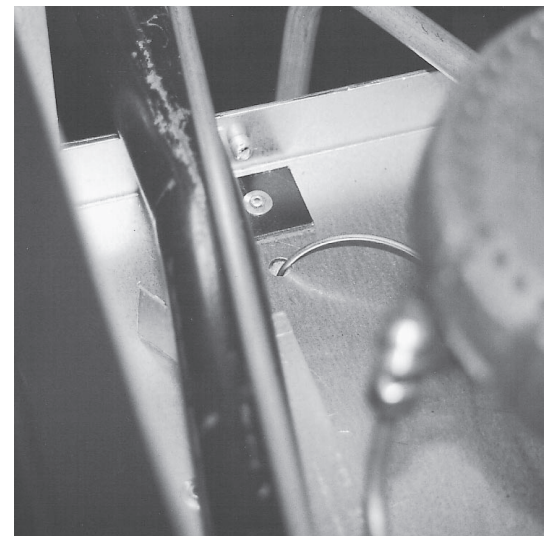

Fig. 29
3. Remove the top grates or griddle sections required to access the thermostat and capillary wiring (Fig. 29).
4. From inside the oven, straighten the capillary lead. From the opening in the oven top section, pull the capillary out of the oven cavity (Fig. 29).